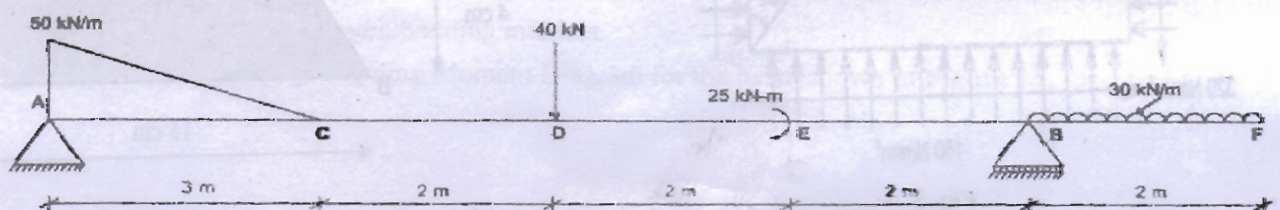

Fig. 13
- (c)** Draw Shear Force and Bending Moment Diagram for the beam shown in **Figure 13**.